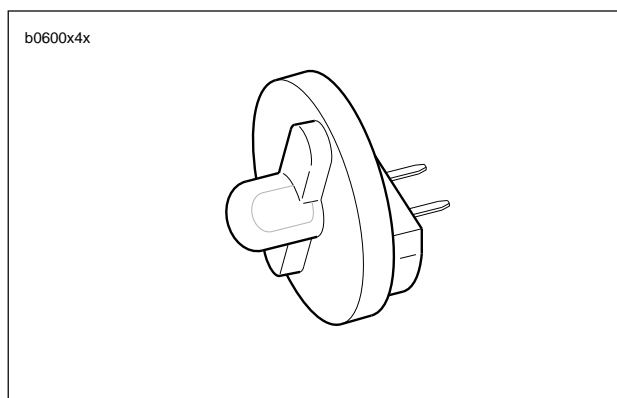

Figure 4-131. Test Lamp
6. Use test lamp as shown in Figure 4-131.